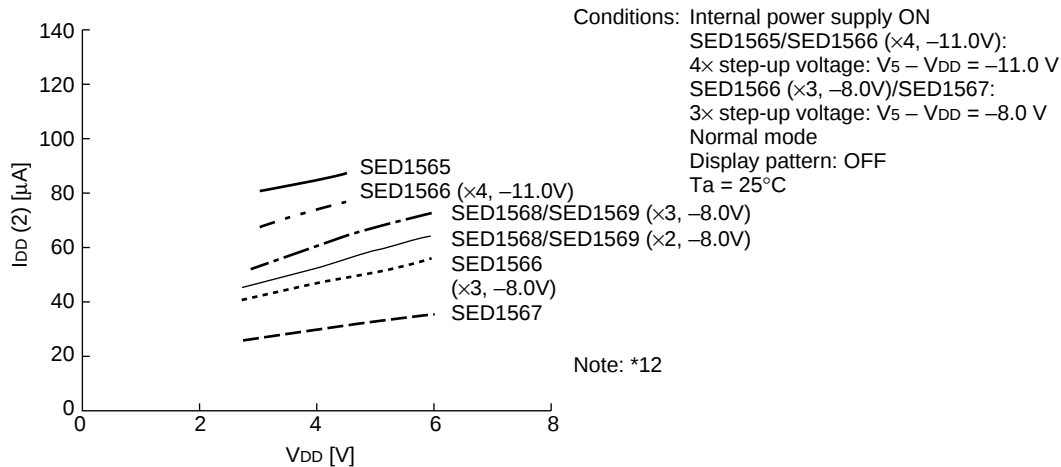

Figure 33
- *2 The operating voltage range for the V_{DD} system and the V_5 system is as shown in Figure 33. This applies when the external power supply is being used.
- *3 The A0, D0 to D5, D6 (SCL), D7 (SI), $\overline{RD}$ (E), $\overline{WR}$ (R/W), $\overline{CS1}$, CS2, CLS, CL, FR, M/S, C86, P/S, $\overline{DOF}$, $\overline{RES}$, IRS, and $\overline{HPM}$ terminals.
- *5 The A0, $\overline{RD}$ (E), $\overline{WR}$ (R/W), $\overline{CS1}$, CS2, CLS, M/S, C86, P/S, $\overline{RES}$, IRS, and $\overline{HPM}$ terminals.
- *6 Applies when the D0 to D5, D6 (SCL), D7 (SI), CL, FR, and $\overline{DOF}$ terminals are in a high impedance state.
- *7 These are the resistance values for when a 0.1 V voltage is applied between the output terminal SEGn or COMn and the various power supply terminals (V_1 , V_2 , V_3 , and V_4). These are specified for the operating voltage (3) range.